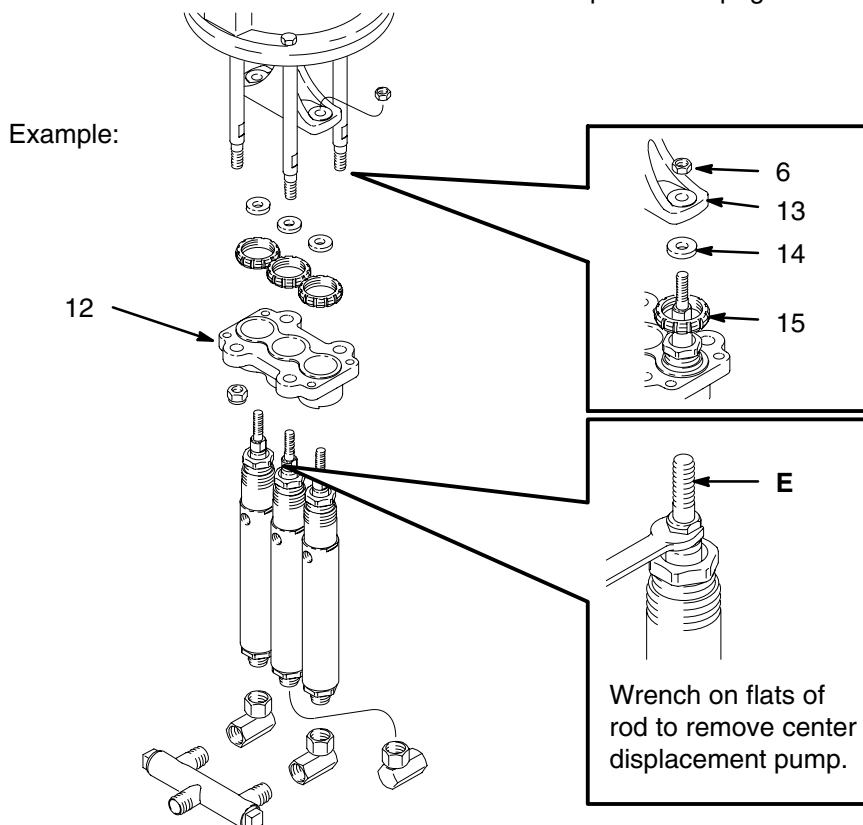

Fig. 5
2. Unscrew the three unions (9) from the intakes of the displacement pumps and remove the manifold (20).
3. Remove the two retaining nuts (6) from the two outer pumps' displacement rods (E). Screw the fluid pump retaining rings (15) off the fluid pumps (use a screwdriver and hammer to loosen). See Fig. 5.
4. Pull the two outer pumps down out of the retaining plate (12). Remove the washers from the displacement rods.
5. Using a wrench on the flats of the center pump's displacement rod, screw the rod out of the yoke (13). See Fig. 5. Then remove the center pump and remove the washer from its displacement rod.
7. Screw the unions (9) securely onto the intakes of the fluid pumps. Flush the system, then start up as explained on page 11.
2. Unscrew the unions (9) (three displacement pump models) from the intakes of the displacement pumps and remove the manifold (20).
3. Remove the two locknuts (6) from the two outer pumps' displacement rods (E). Screw the fluid pump retaining rings (15) off the fluid pumps (use a screwdriver and hammer to loosen).
4. Pull the two outer pumps (25) down out of the retaining plate (12). Remove the washers (14) from the displacement rods (E).
Using a wrench on the flats of the center pump's displacement rod (E), screw the rod out of the yoke (13). See Fig. 5. Then remove the center pump (24) and remove the washer (44) from its displacement rod.